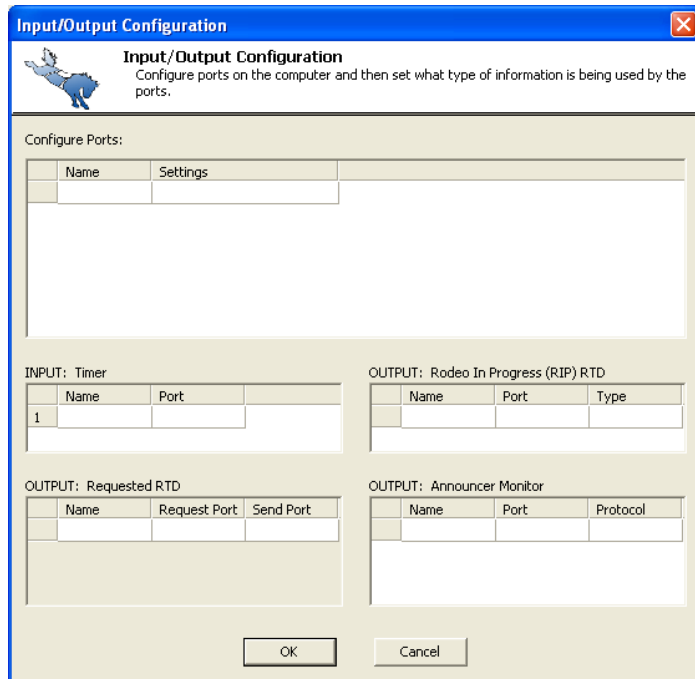

Figure 16: Input/Output Configuration
2. In the **Input/Output Configuration** window (*Figure 16*), double-click the first empty box under the *Configure Ports* section.